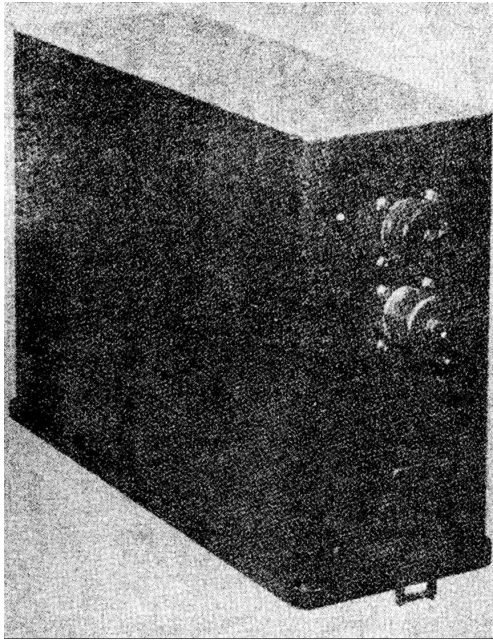

Figure 1-7. Power Supply PP-3700/PRC-41, Oblique View
(2) POWER SUPPLY PP-3700/PRC-41.. Refer to figure 1-7. The circuitry of Power Supply PP-3700/PRC-41 is contained in an aluminum case having the same dimensional configuration as Storage Battery BB-451/U. Power Supply PP-3700/PRC-41 is used to provide the 26.5-volt d-c primary power for Radio Receiver-Transmitter RT-695/PRC-41 where either 115- or 230-volt, 50- to 400-cps power is available. Refer to paragraph 2-5b(1). This component may be clamped directly to the rear of Radio Receiver-Transmitter RT-695/PRC-41 or its primary power may be made available by use of Power Electric Cable Assembly CX-8686/PRC-41 connected between the d-c connector on the side of the PP-3700/ PRC-41 and the rear of Mounting MT-2976/PRC-41. When operating the RT-695/PRC-41 on the test bench with Receiver-Transmitter Case CY-3884/ PRC-41 removed, primary power may be made available to the RT-695/PRC-41 by use of the d-c maintenance adapter. Power Supply PP-3700/PRC-41 may also be mounted on Mounting MT-2977/PRC-41.